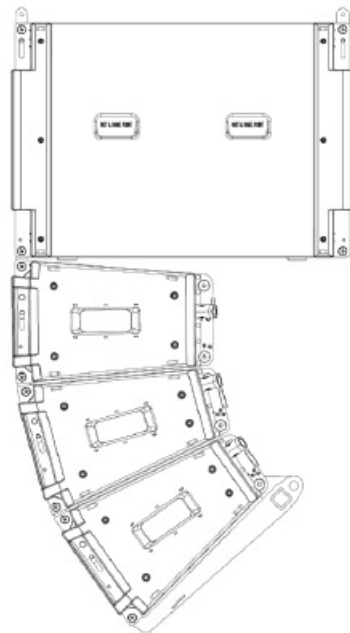

Fig. 6. SM10-SM20-SM20
- SM10, SM20, SM20 (see Figure 6)